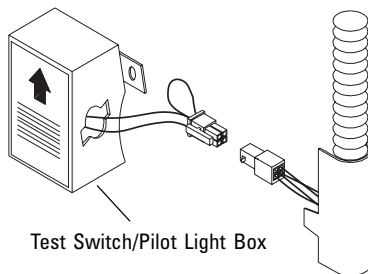

Figure 2
2. Make emergency ballast assembly and test switch/pilot light connection by plugging the two connectors together (see Figure 2).